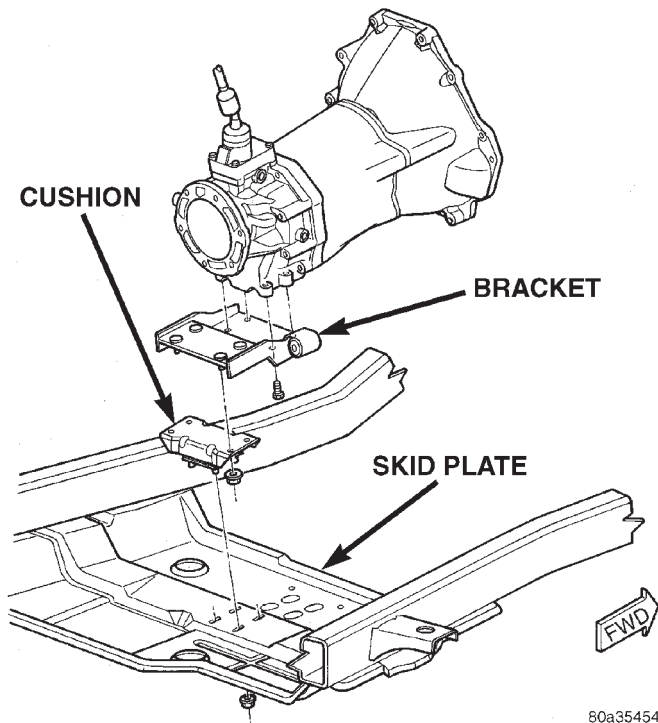
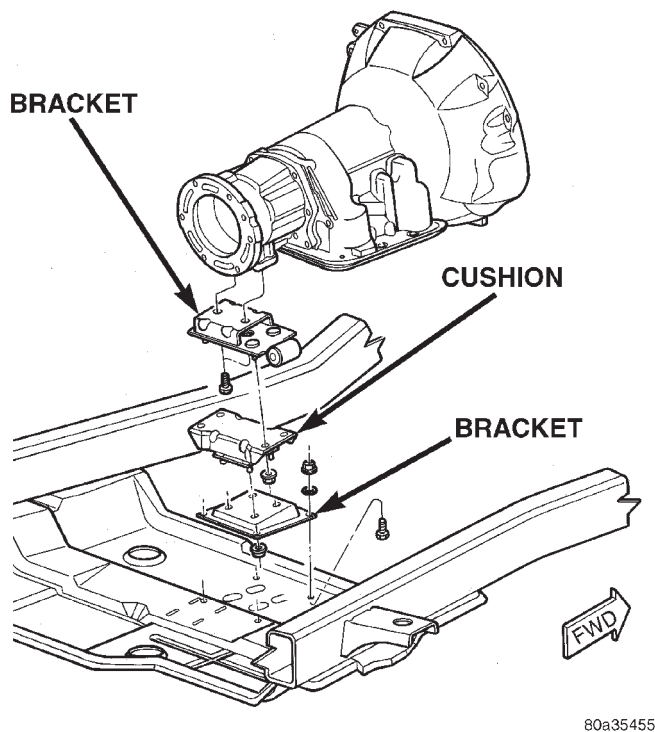

Fig. 25 Rear Mount (Manual Transmission)
Fig. 26 Rear Mount (Automatic Transmission)
- (1) Disconnect negative cable from battery.
- (2) Raise the vehicle and support the transmission.
- (3) Remove the nuts holding the support cushion to the skid plate (Fig. 25) (Fig. 26).
- (4) Remove the skid plate bolts and the skid plate.
- (1) Remove nuts holding support cushion to transmission support bracket (Fig. 26). Remove the support cushion.
- (2) Remove the bolts holding the transmission support bracket to transmission.
- (3) Remove the transmission support bracket.
- (1) Position the transmission mount bracket to the transmission and install the bolts (Fig. 25).
- (2) Tighten the bolts to 54 N·m (40 ft. lbs.) torque.
- (3) Position the support cushion to the transmission mount bracket and install nuts (Fig. 25).
- (4) Tighten the nuts to 41 N·m (30 ft. lbs.) torque.
- (1) Position the transmission mount bracket to the transmission and install the bolts. Tighten the bolts to 54 N·m (40 ft. lbs.) torque.
- (2) Position the support cushion to the transmission mount bracket and install nuts. Tighten the nuts to 41 N·m (30 ft. lbs.) torque (Fig. 26).
- (3) If the support cushion bracket was removed from the skid plate, position the bracket on the skid plate and install the nuts and bolts. Tighten the nuts to 28 N·m (21 ft. lbs.) torque.
- (1) Position the skid plate to the studs of the support cushion and install the nuts (Fig. 25) (Fig. 26). Tighten the nuts to 28 N·m (21 ft. lbs.) torque.
- (2) Install the skid plate bolts to the sill and tighten to 75 N·m (55 ft. lbs.) torque.
- (3) Remove the transmission support.
- (4) Lower the vehicle.
- (5) Connect negative cable to battery.